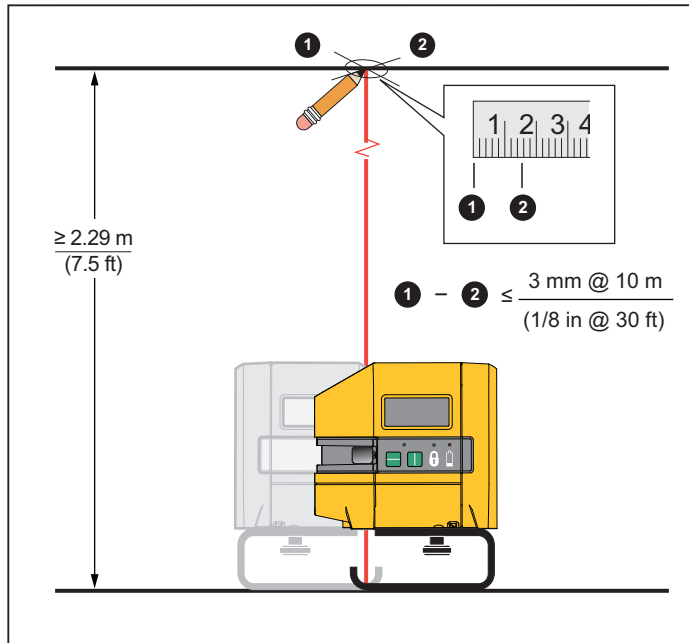

Figure 10. Plumb Accuracy
3. Center the down point laser on both axes of the cross mark. See Figure 10.